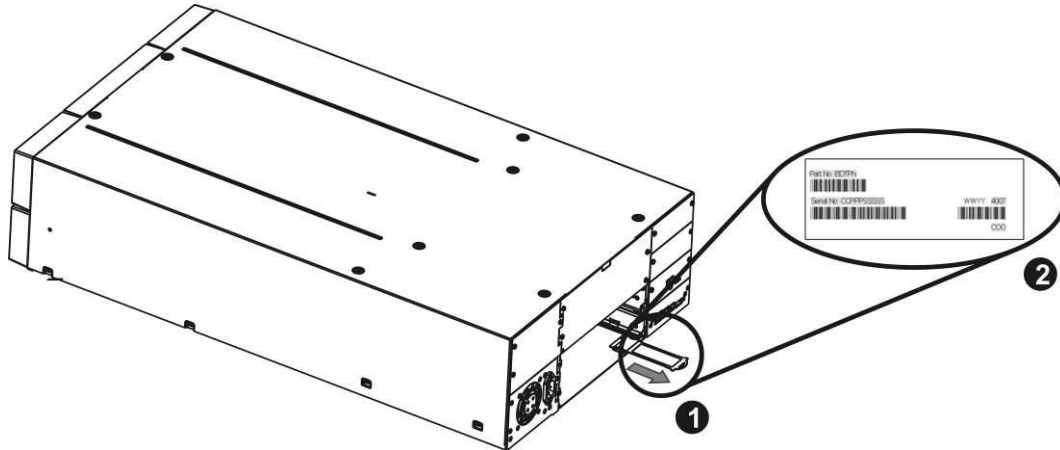

Figure 147 Product ID label
- Pull out the pull-out tab with the product ID label; see **Figure 147, Step 1**.
- Note the part and serial number; see Figure 147, Step 2.